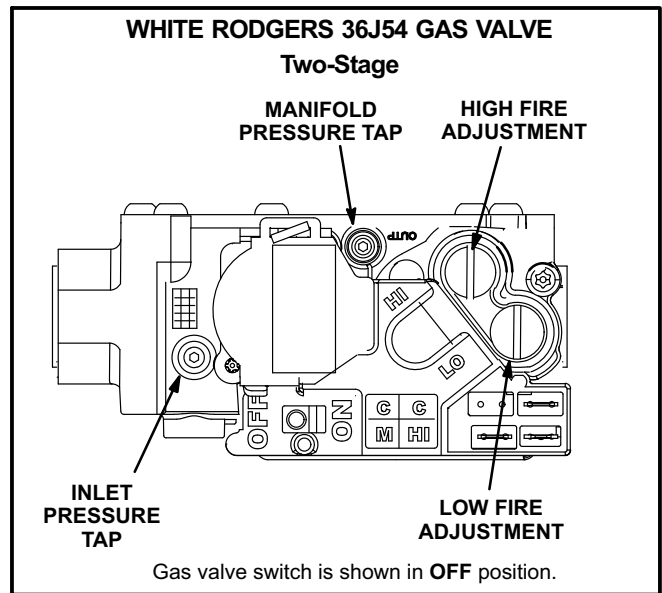

FIGURE 23
Gas Valve Operation (figure 23)
- 5- Move gas valve switch to **OFF**. See figure 23.
- 6- Wait five (5) minutes to clear out any gas. If you then smell gas, **STOP!** Immediately call your gas supplier from a neighbor's phone. Follow the gas supplier's instructions. If you do not smell gas, go to the next step.
- 7- Move gas valve switch to **ON**. See figure 23.